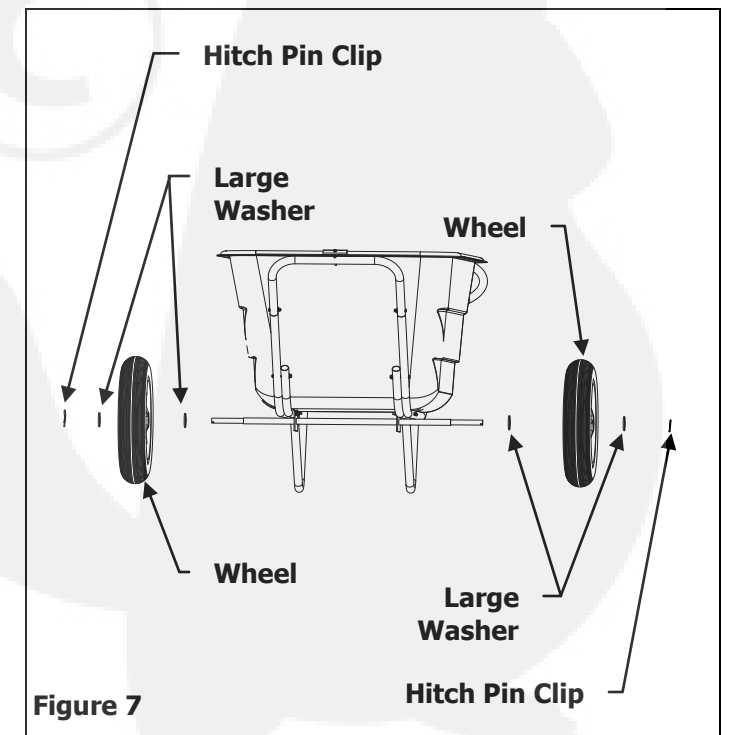

Figure 7
9. Place a Large Flat Washer onto Axle, then a Wheel and then another Flat Washer and secure with a Hitch Pin Clip. Repeat on other side. See Figure 7.